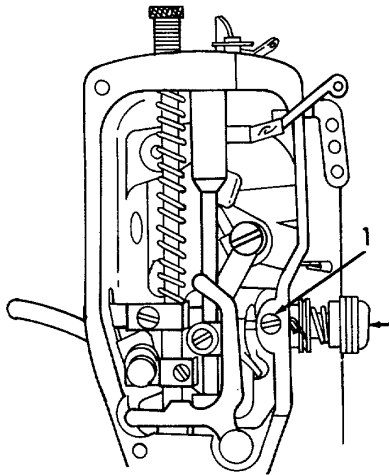

Figure 6-92. Needle Thread Tension Assembly, Removal.
- (3) Refer to Figure 6-92. Loosen setscrew (1) but do not remove.
- (4) Carefully remove needle guide tension assembly (2) as an assembly.